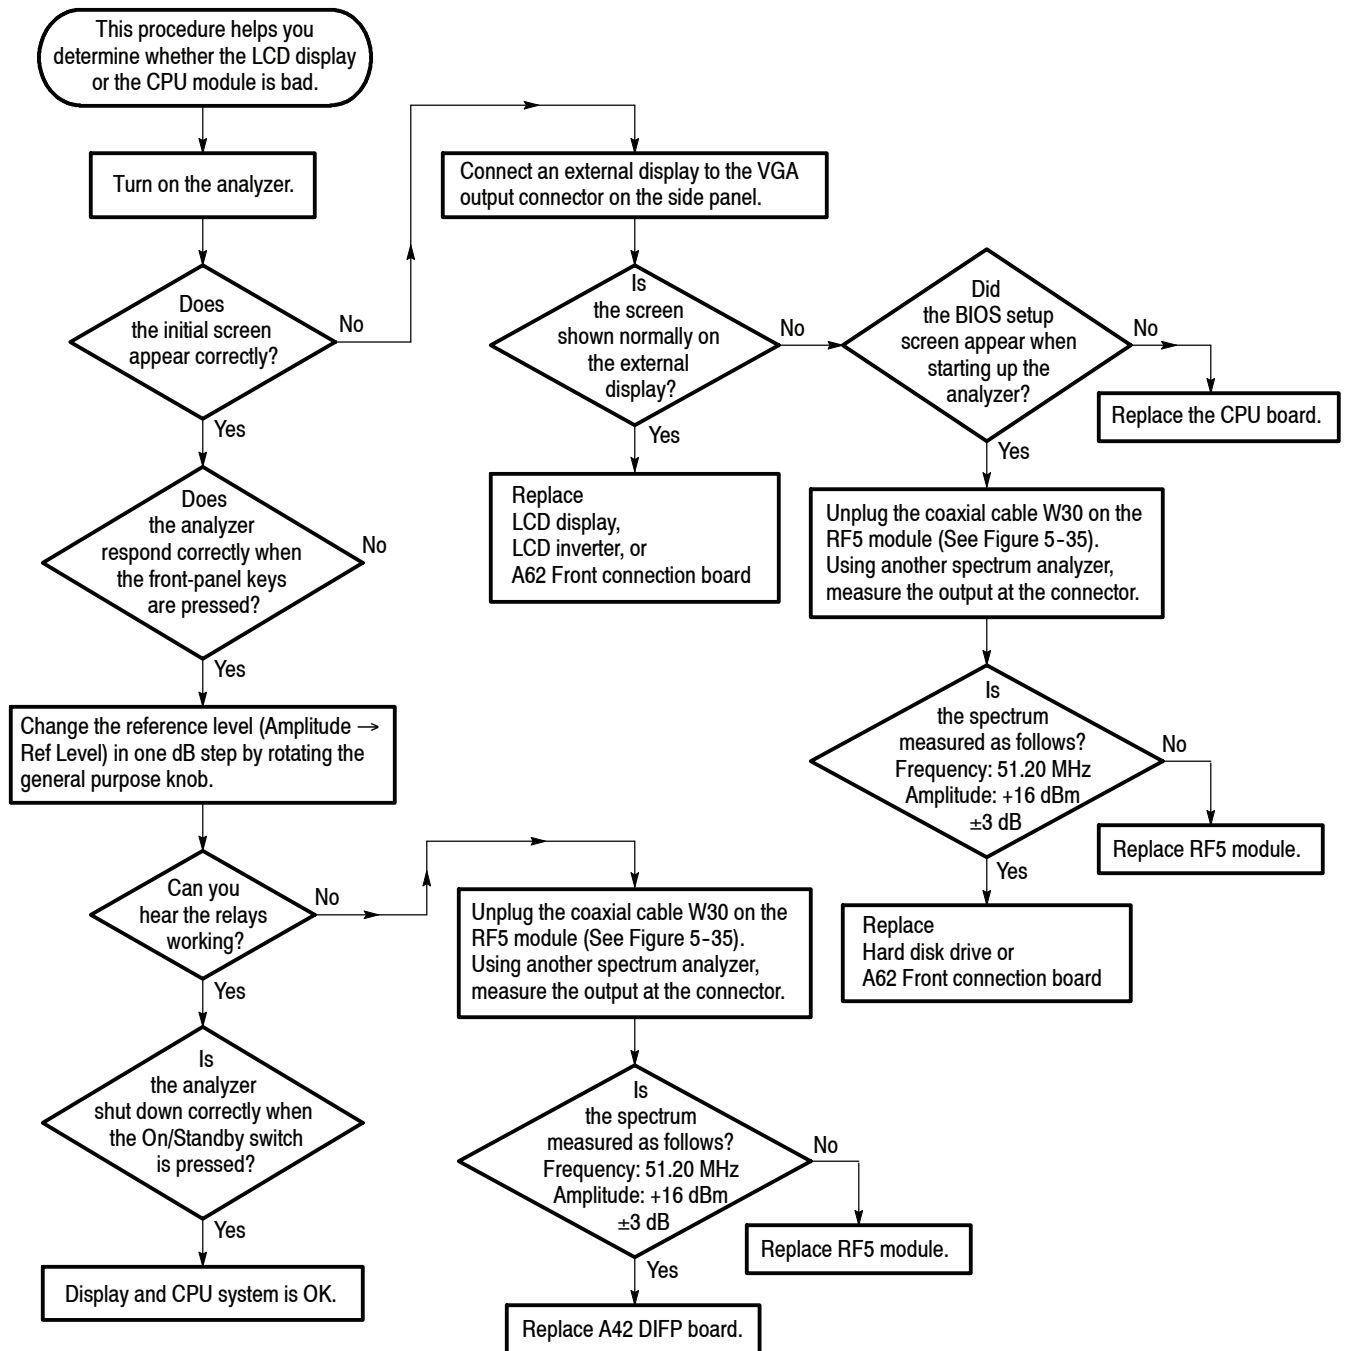

Figure 5-33: Troubleshooting procedure 2 — Display and CPU system
- Figure 5-33: Troubleshooting Procedure 2 — CPU and Display system